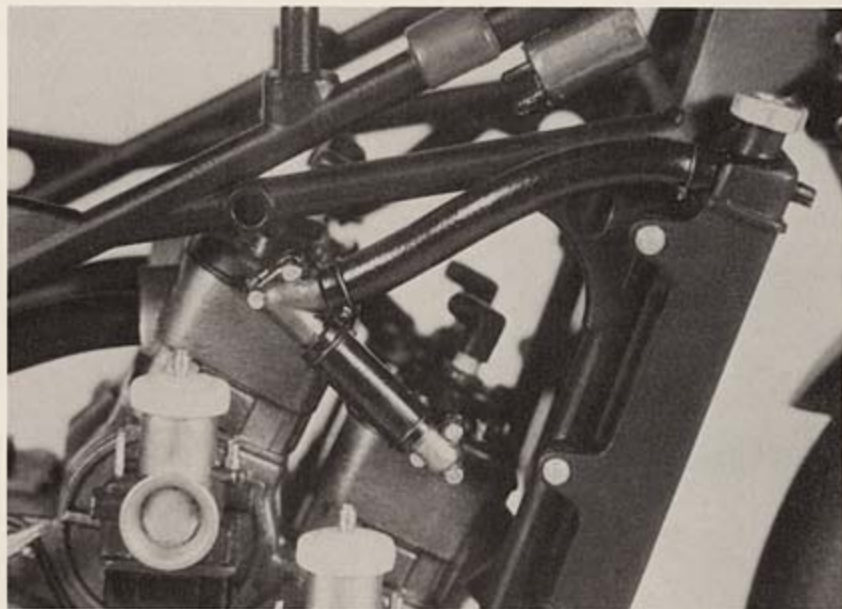

Fig. 11. File a shallow groove in the hose before adding a wire hose clamp so that the wire will seem to be actually compressing the hose.
**Wires, hoses, and clamps.** All wires and hoses should have some sort of connector or clamp at each end, yet these seldom appear on molded parts. You can often simulate a connector for spark plug wires by slipping a piece of larger diameter tubing over the end of the wire, Fig. 10. Wire hose clamps are almost as easy — cut a shallow groove on the hose where the wire will go, wrap the wire around the hose, twist its ends tightly, and snip off the excess, Fig. 11. In Fig. 11 the upper hose, the one running from the radiator to the cylinder head, is a piece of miniature